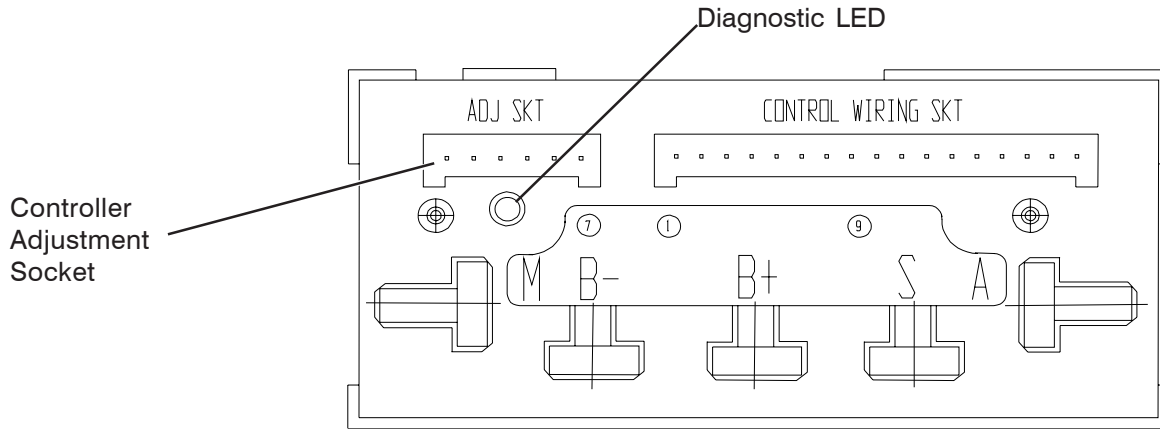

Figure 5-6. Traction Controller
2. Locate controller adjustment socket, as shown in Figure 5-6, and connect hand-held calibrator. Power up the Platform by selecting platform controls using key switch at the Platform Control Box.